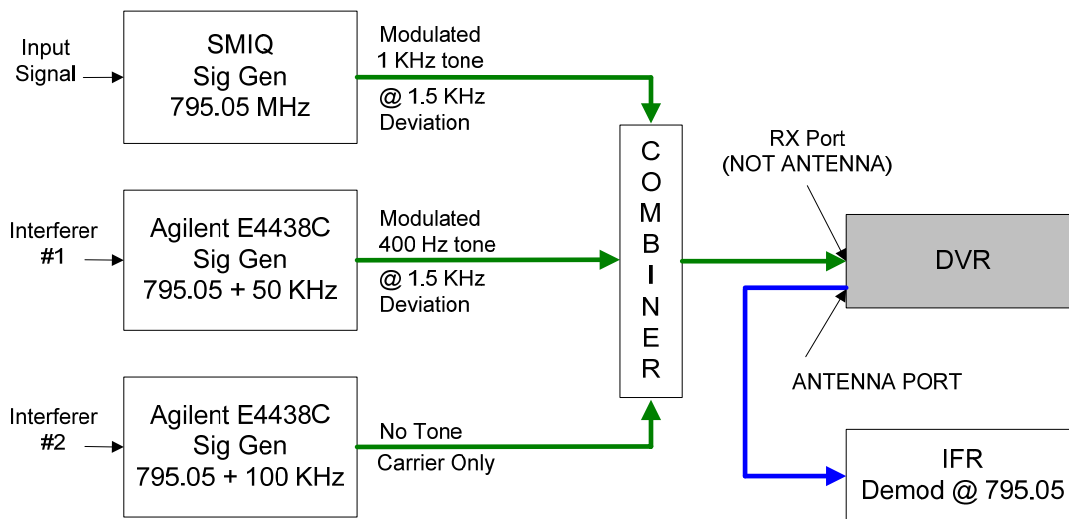

Figure 9: Block Diagram for Receiver Intermodulation Test
5. Interconnect the test equipment to the DVR as shown in Figure 9.